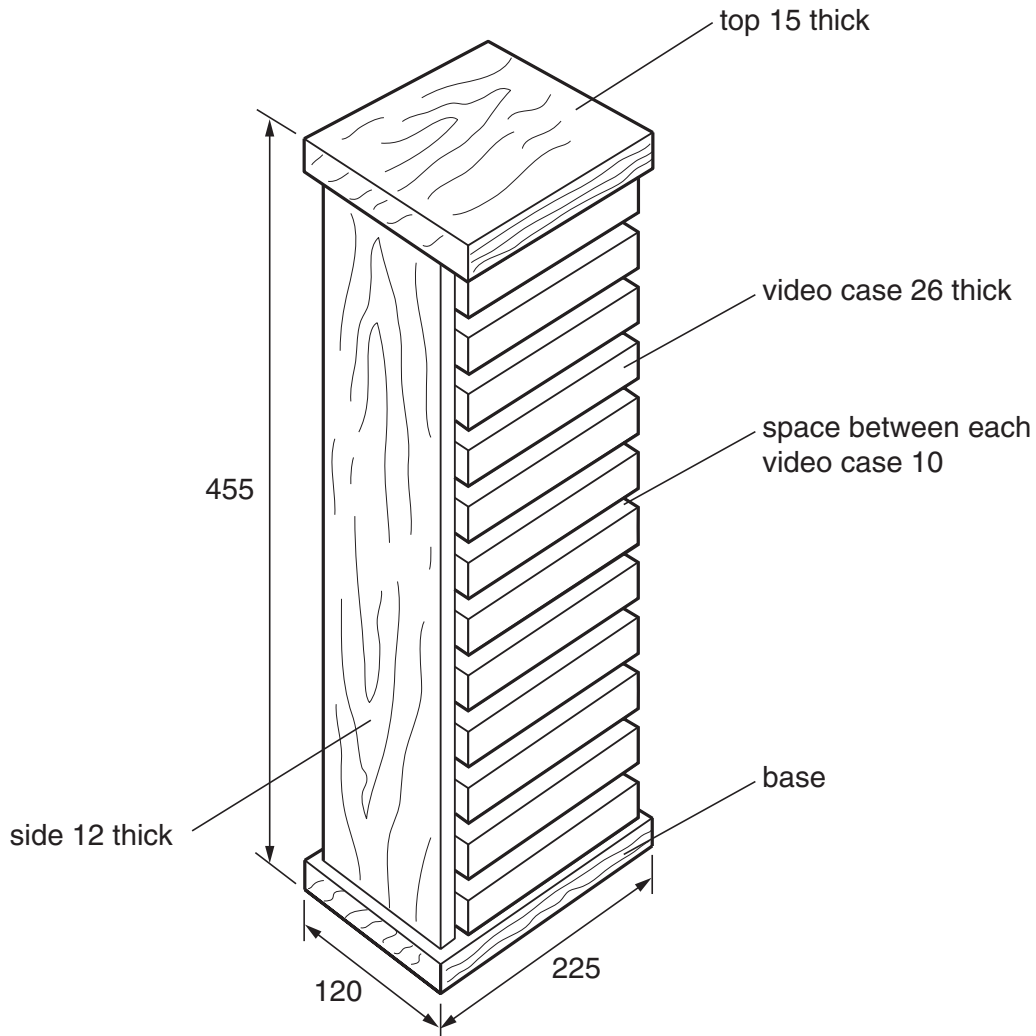

Fig. 2
- 7 Fig. 2 shows the outline of a video cassette storage unit made mainly from hardwood. The video cassettes are shown in position.